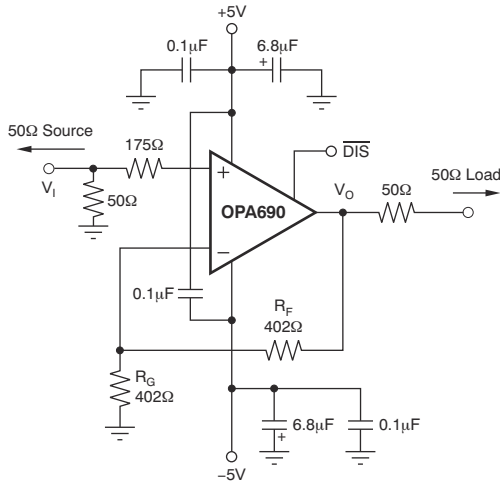
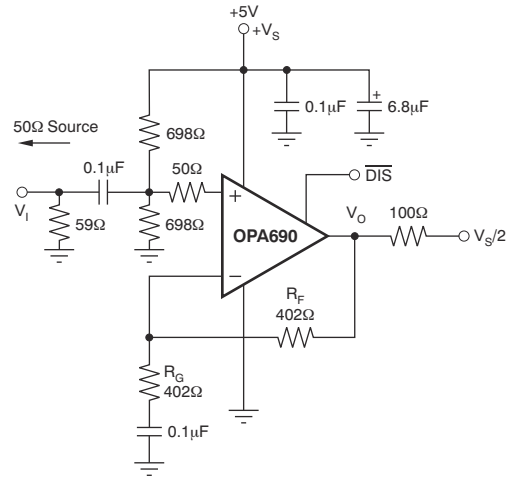

图 7-1. DC-Coupled, $G = 2$ V/V, Bipolar-Supply Specification and Test Circuit
图 7-2. AC-Coupled, $G = 2$ V/V, Single-Supply Specification and Test Circuit
at $T_A = 25^\circ\text{C}$, $G = 2$, $R_F = 402\ \Omega$, and $R_L = 100\ \Omega$ (unless otherwise noted); see 图 7-1 for ac performance only
at $T_A = 25^\circ C$, $G = 2$, $R_F = 402\ \Omega$, and $R_L = 100\ \Omega$ (unless otherwise noted); see 图 7-1 for ac performance only
at $T_A = 25^\circ C$, $G = 2$, $R_F = 402\ \Omega$, and $R_L = 100\ \Omega$ (unless otherwise noted); see 图 7-2 for ac performance only
at $T_A = 25^\circ\text{C}$, $G = 2$, $R_F = 402\ \Omega$, and $R_L = 100\ \Omega$ (unless otherwise noted); see 图 7-2 for ac performance only
图 7-1 shows the dc-coupled, gain of 2 V/V, dual power-supply circuit configuration used as the basis of the 节 6.11. For test purposes, the input impedance is set to 50 Ω with a resistor to ground and the output impedance is set to 50 Ω with a series output resistor. Voltage swings reported in the specifications are taken directly at the input and output pins, while output powers (dBm) are at the matched 50- Ω load. For the circuit of 图 7-1, the total effective load is 100 Ω || 804 Ω . The disable control line is typically left open to maintain normal amplifier operation. An additional resistor (175 Ω) is included in series with the noninverting input. Combined with the 25- Ω DC source resistance looking back towards the signal generator, this gives an input bias current canceling resistance that matches the 200- Ω source resistance seen at the inverting input (see 节 8.1.8). In addition to the usual power-supply decoupling capacitors to ground, a 0.1- μ F capacitor is included between the two power-supply pins. In practical printed-circuit board (PCB) layouts, this optional-added capacitor typically improves the 2nd-harmonic distortion performance.
图 7-2 shows the AC-coupled, gain of 2, single-supply circuit configuration which is the basis of the 5 V and 节 6.12. Although not a rail-to-rail design, the OPA690 requires minimal input and output voltage headroom compared to other very wideband voltage-feedback op amps. The device delivers a 3-V_{PP} output swing on a single 5-V supply with > 120-MHz bandwidth. The key requirement of broadband single-supply operation is to maintain input and output signal swings within the useable voltage ranges at both the input and the output. The
circuit of 图 7-2 establishes an input midpoint bias using a simple resistive divider from the 5-V supply (two 698- Ω resistors). The input signal is then ac-coupled into the midpoint voltage bias. The input voltage can swing to within 1.5 V of either supply pin, giving a 2- V_{PP} input signal range centered between the supply pins. The input impedance matching resistor (59 Ω) used for testing is adjusted to give a 50- Ω input load when the parallel combination of the biasing divider network is included.
Voltage-feedback op amps exhibit decreasing closed-loop bandwidth as the signal gain is increased. In theory, this relationship is described by the gain bandwidth product (GBP) shown in 节 6.5 and 节 6.7. Ideally, dividing GBP by the noninverting signal gain (also called the noise gain, or NG) predicts the closed-loop bandwidth. In practice, this relationship only holds true when the phase margin approaches 90°, as in high-gain configurations. At low gains (increased feedback factors), most amplifiers exhibit a more complex response with lower phase margin. The OPA690 is compensated to give a slightly peaked response in a noninverting gain of 2 V/V (see 图 7-1). This compensation results in a typical gain of 2 bandwidth of 220 MHz, far exceeding that predicted by dividing the 300 MHz GBP by 2. Increasing the gain causes the phase margin to approach 90° and the bandwidth to more closely approach the predicted value of (GBP/NG). At a gain of 10, the 30-MHz bandwidth shown in the ± 5 -V *Electrical Characteristics* agrees with that predicted using the simple formula and the typical GBP of 300 MHz.
The frequency response in a gain of 2 V/V can be modified to achieve exceptional flatness by simply increasing the noise gain to 2.5. One method, without affecting the two signal gain, is to add an 804- Ω resistor across the two inputs in the circuit of 图 7-1. A similar technique can be used to reduce peaking in unity-gain (voltage-follower) applications. For example, by using a 402- Ω feedback resistor along with a 402- Ω resistor across the two op amp inputs, the voltage follower response is similar to the gain of 2 response of 图 7-2. Reduce the value of the resistor across the op amp inputs to further limit the frequency response due to increased noise gain.
The OPA690 is a general-purpose, wideband voltage-feedback op amp; therefore, all of the familiar op amp application circuits are available to the designer. Inverting operation is one of the more common requirements and offers several performance benefits. 图 8-1 shows a typical inverting configuration where the I/O impedances and signal gain from 图 7-1 are retained in an inverting circuit configuration.
The second major consideration, touched on in the previous paragraph, is that the signal source impedance becomes part of the noise gain equation and influences the bandwidth. For the example in 图 8-1, the R_M value combines in parallel with the external 50- Ω source impedance, yielding an effective driving impedance of 50 Ω || 67 Ω = 28.6 Ω . This impedance is added in series with R_G for calculating the noise gain (NG). The resultant NG is 2.8 for 图 8-1, as opposed to only 2 if R_M can be eliminated as discussed previously. Therefore, the bandwidth is slightly less for the circuit of 图 8-1 than for the gain of 2 circuit of 图 7-1.
A good practice is to target the parallel combination of R_F and R_G (see 图 7-1) to be less than approximately 300 Ω . The combined impedance $R_F \parallel R_G$ interacts with the inverting input capacitance, placing an additional pole in the feedback network, and thus, a zero in the forward response. Assuming a 2-pF total parasitic on the inverting node, holding $R_F \parallel R_G < 300 \Omega$ keeps this pole greater than 250 MHz. Alone, this constraint implies that the feedback resistor R_F can increase to several k Ω at high gains. This result is acceptable as long as the pole formed by R_F and any parasitic capacitance appearing in parallel is kept out of the frequency range of interest.
The OPA690 provides good distortion performance into a 100- Ω load on ± 5 -V supplies. Relative to alternative solutions, this device provides exceptional performance into lighter loads, while operating on a single 5-V supply. Increasing the load impedance improves distortion directly. Remember that the total load includes the feedback network; in the noninverting configuration (see 图 7-1), this total load is sum of $R_F + R_G$, while in the inverting configuration the total load is just R_F . Also, providing an additional supply-decoupling capacitor (0.1 μ F) between the supply pins (for bipolar operation) improves the 2nd-order distortion.
Evaluating these two equations for the OPA690 circuit and component values (see 图 7-1) gives a total output spot noise voltage of 12.3 nV/√Hz and a total equivalent input spot noise voltage of 6.1 nV/√Hz. This is including the noise added by the bias current cancellation resistor (175 Ω) on the noninverting input. This total input-referred spot noise voltage is only slightly higher than the 5.5-nV/√Hz specification for the op amp voltage noise alone. This is the case as long as the impedances appearing at each op amp input are limited to the previously recommend maximum value of 300 Ω. Keeping both (R_F || R_G) and the noninverting input source impedance less than 300 Ω satisfies both noise and frequency response flatness considerations. Because the resistor-induced noise is relatively negligible, additional capacitive decoupling across the bias current cancellation resistor (R_B) for the inverting op amp configuration of 图 8-1 is not required.
The balanced input stage of a wideband voltage-feedback op amp allows good output dc accuracy in a wide variety of applications. Although the high-speed input stage does require relatively high input bias current (typically $\pm 8 \mu\text{A}$ at each input terminal), the close matching can be used to reduce the output dc error caused by this current. The total output offset voltage can be considerably reduced by matching the dc source resistances appearing at the two inputs. This matching reduces the output dc error due to the input bias currents to the offset current times the feedback resistor. Evaluating the configuration of 图 7-1, and using worst-case 25°C input offset voltage and current specifications, gives a worst-case output offset voltage equal to:
As a worst-case example, compute the maximum T_J using an OPA690-DBV (6-pin SOT-23 package) in the circuit of 图 7-1 operating at the maximum specified ambient temperature of 85°C and driving a grounded 20- Ω load.